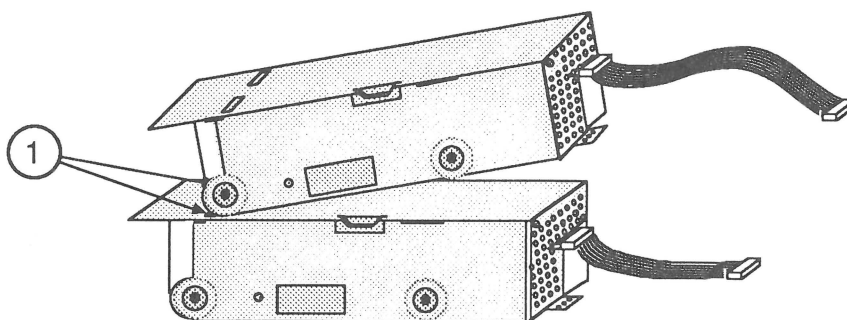

FIGURE 32
2. To place the upper drive into the chassis over the installed lower drive, slide the upper internal drive forward, then back over the lower internal drive so that the tabs on the top of the lower drive housing mesh with the holes on the bottom of the upper drive housing (Figure 32, #1).